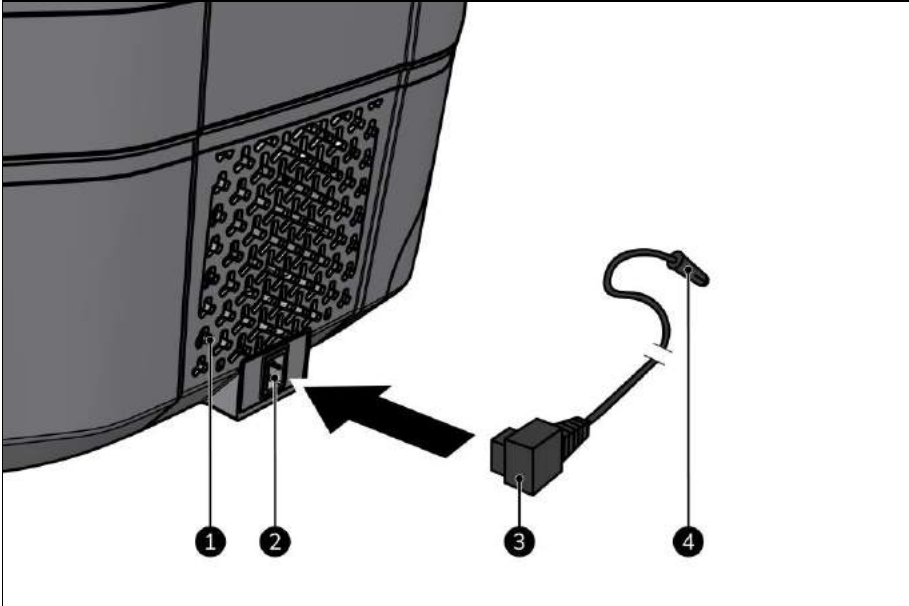

Figure 6
2. Make sure that all three ventilation grills (Figure 6, pos. 1) have at least 5 cm of ventilation space.
3. Place the power connector (Figure 6, pos. 3) into the power supply of the device (Figure 6, pos. 2).
4. Place the auxiliary power plug (Figure 6, pos. 4) into an easily accessible 12 V or 24 V auxiliary power supply in a vehicle or vessel.